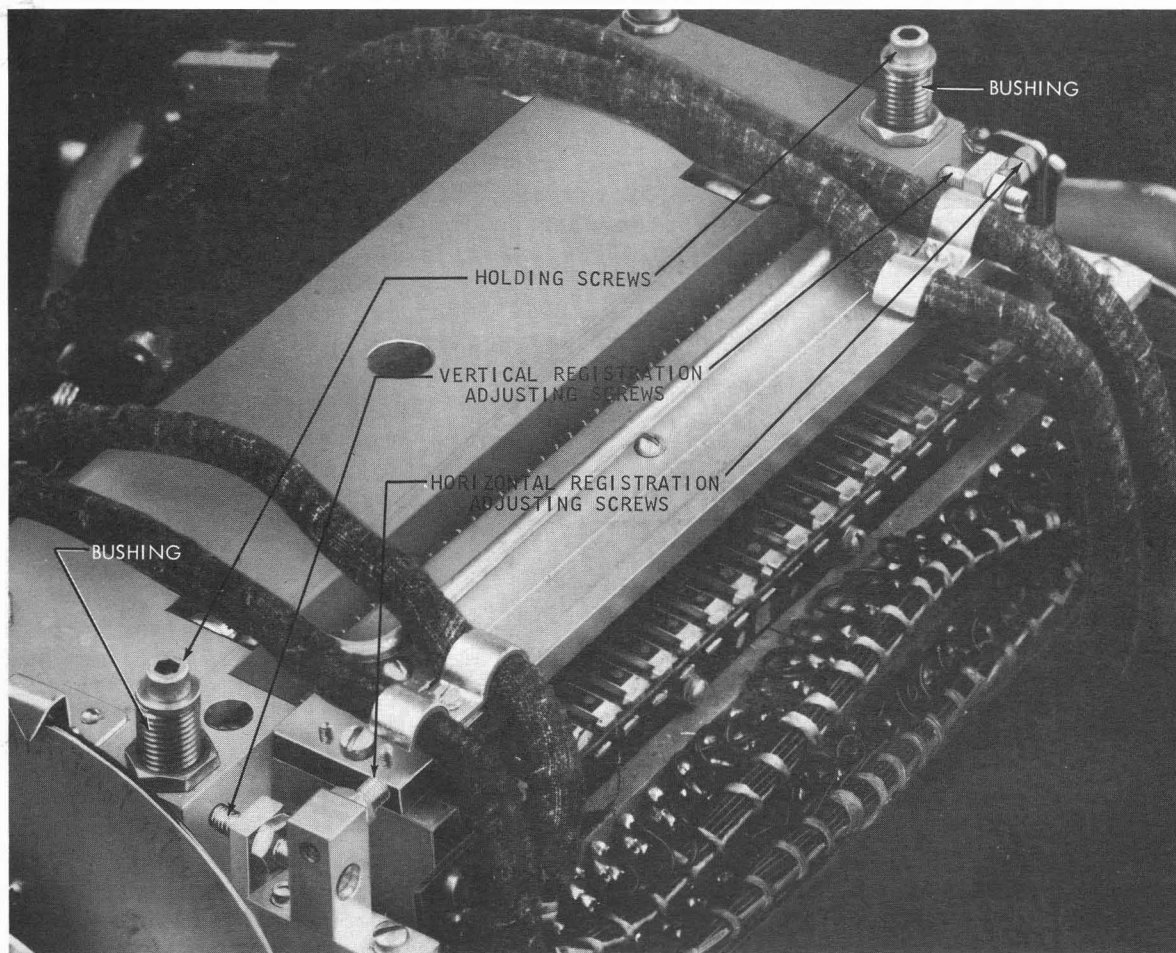

Figure 4-17. Punch Unit Adjusting Screws
- a. Loosen four holding screws on top of punch unit (Figure 4-17).
- b. Loosen locknut on horizontal adjusting screw and turn adjusting screw in proper direction to permit shifting punch unit in direction required to correct horizontal registration (Figure 4-17).